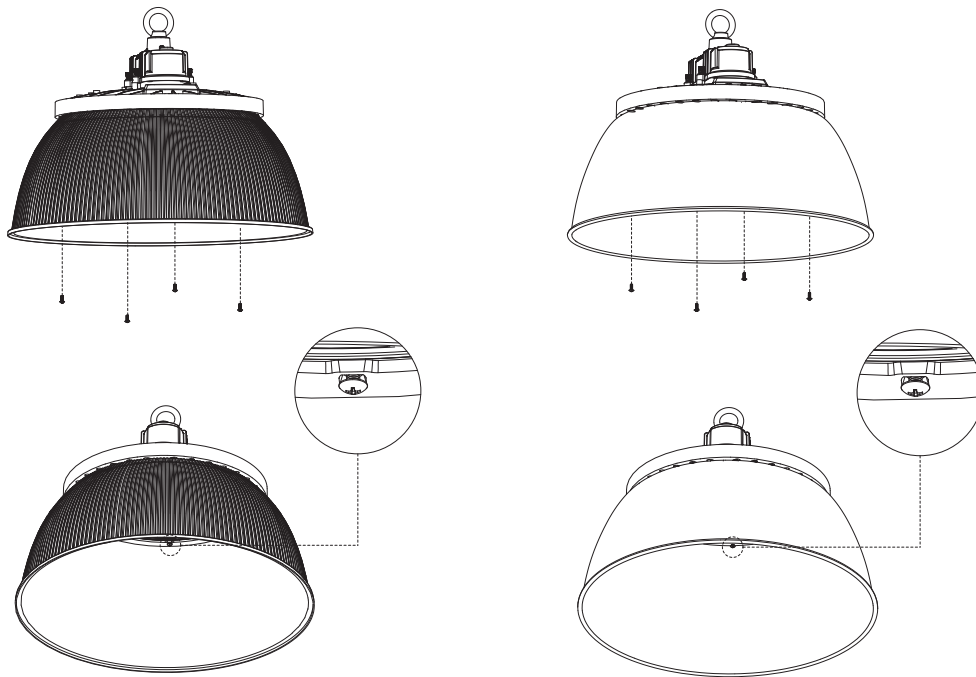

Figure 14
Step 2. Installation complete. (Figure 14)